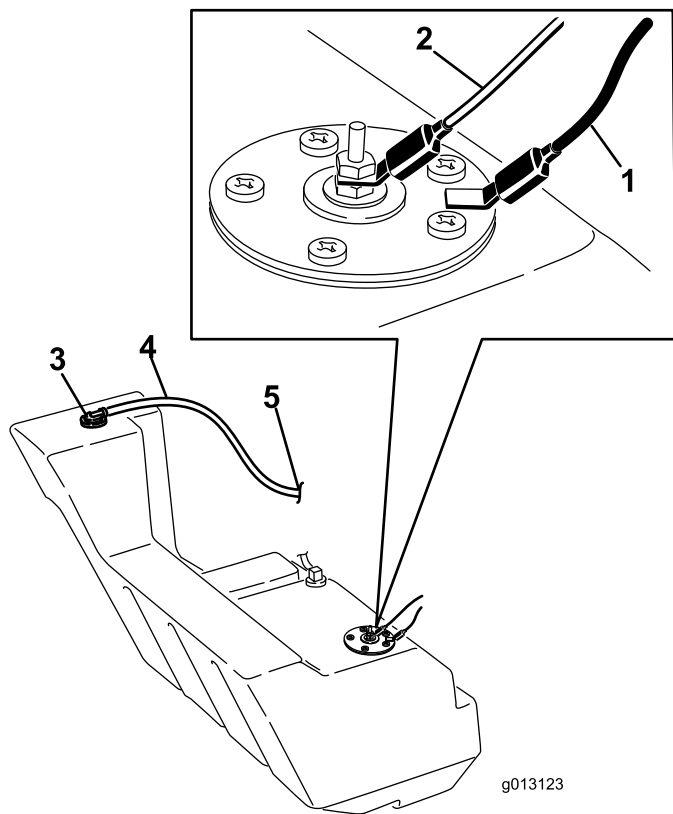

Figure 72
12. Disconnect the 2 wires leading to the right side of the tank (Figure 72).
21. On the right side of the tank, connect the orange wire to the center post and the black wire to the outside post (Figure 72).